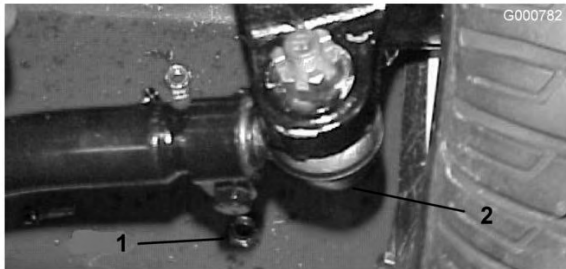

Figure 72
2. To adjust, remove the cotter pin and nut from either tie rod ball joint. Remove tie rod ball joint from axle case support (Figure 72).
3. Loosen the clamps at both ends of the tie rods (Figure 72).